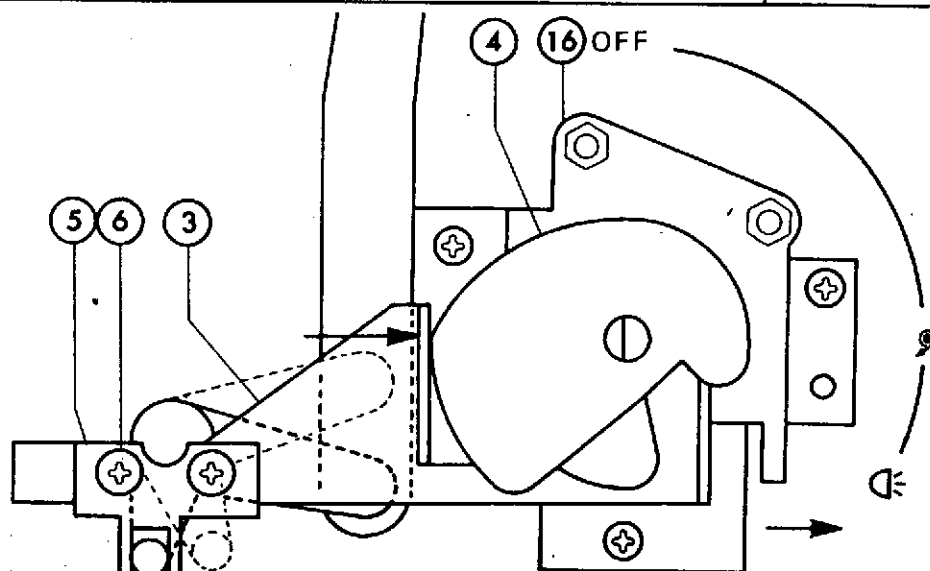

Fig. 24
- (6) When Fig. 24-16 is removed or replaced, fix Fig. 24-16, pushing it in the direction of the arrow illustrated in Fig. 24.